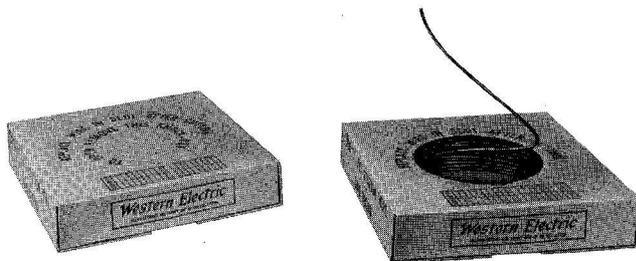

Fig. 1 — Dispensing Jacketed Wire
- (1) Punch out perforated hole from carton.
- (2) Place carton on floor and feed wire from center of coil (Fig. 1).